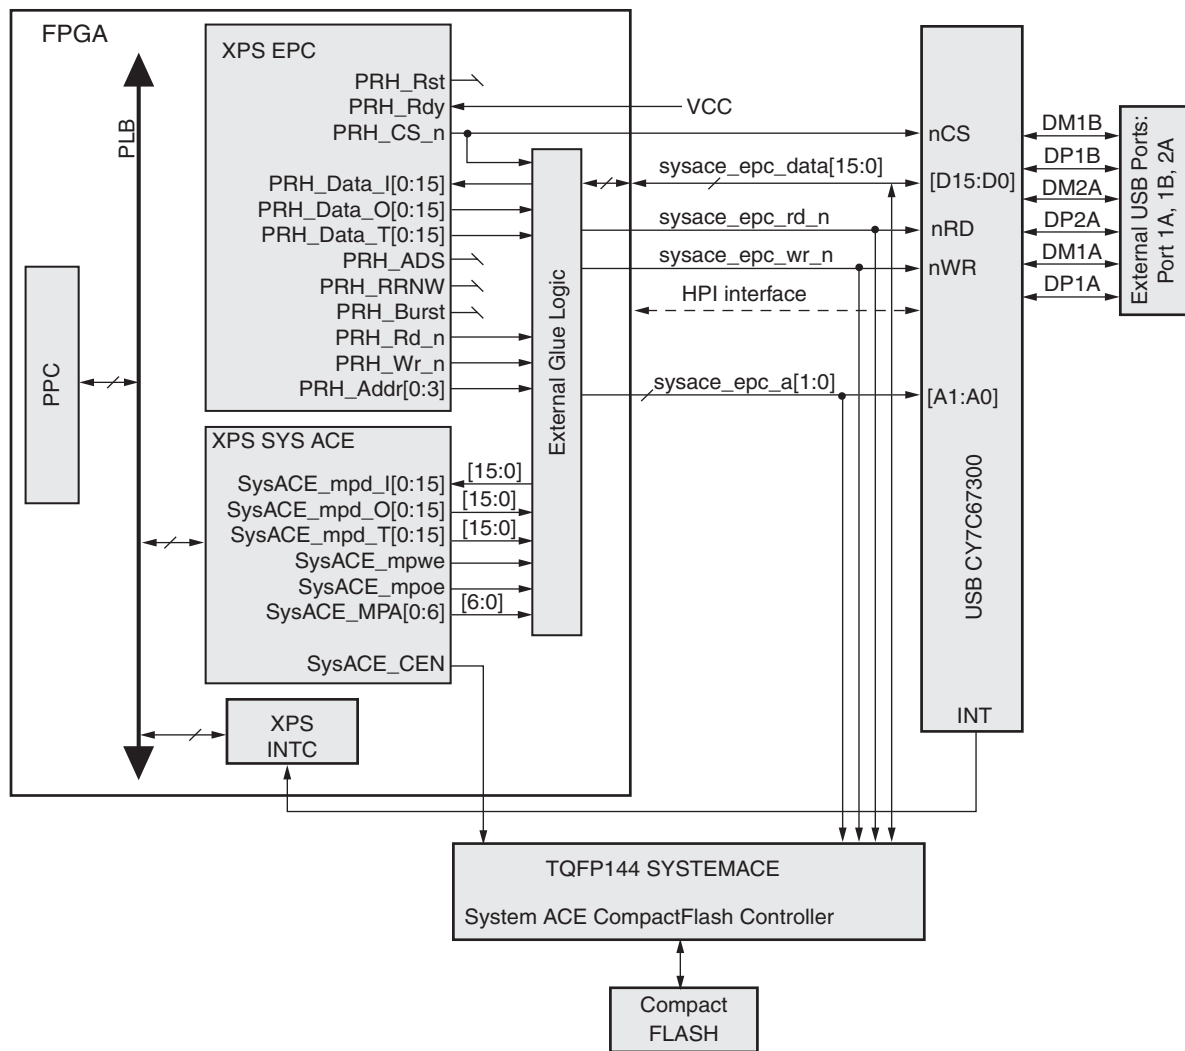

Figure 8: CY7C67300 USB Controller connection to XPS EPC in asynchronous mode
**Figure 8** illustrates the CY7C67300 USB Controller connection to the XPS EPC IP Core in asynchronous mode with non-multiplexed address and data buses. This interface is tested in hardware.
The following parameter settings apply for the connection shown in **Figure 8**.
In the interface diagram example shown in Figure 8, the XPS EPC IP Core as well as the XPS SYSACE share the interface for data, address and control lines on the board. This requires external multiplex logic to be placed outside of IP cores in the FPGA. The XPS EPC IP Core control signals PRH\_RD\_n and PRH\_WR\_n are muxed with the MEM\_CEN and MEM\_WEN signals of the XPS SYSACE. When CY7C67300 USB Controller is accessed through the asynchronous mode, the rising edge of sysace\_epc\_rd\_n and sysace\_epc\_wr\_n signals are used to control the read and the write operations respectively. See the Reference Documents section for more information on XPS SYSACE.